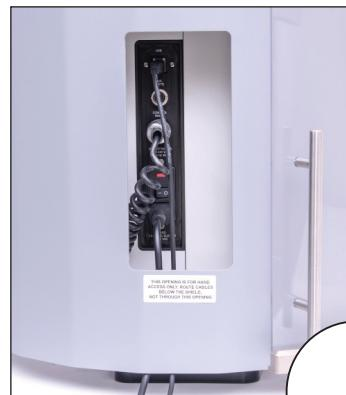

Fig. 3
4. Route all cables, such as the test stand power cable and control panel cable, underneath the shield, as shown in Fig. 3. **Do not** route cables through the cutout in the sheet metal cover. Doing so can result in damage to the cables while the door is rotating past this area. This cutout is provided for hand access to the connector panel only.